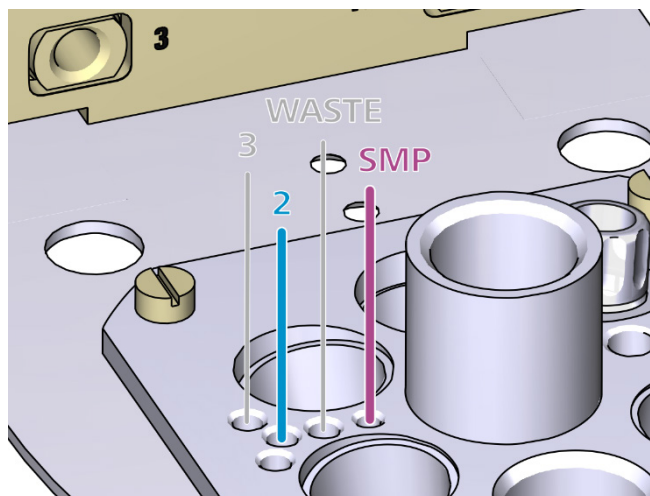

Fig. 10: Recommended electrolyte and sample tube positions on the measuring head
- The electrolyte tubing should be put through the central one of the four equally sized holes on the left side to minimize overlapping with further installed tubes (see Fig. 10).